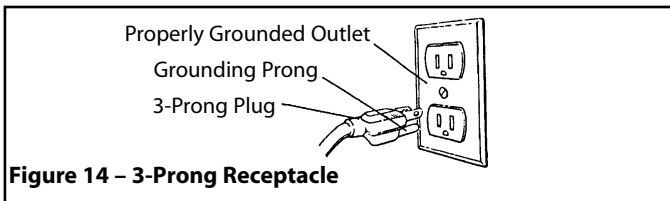
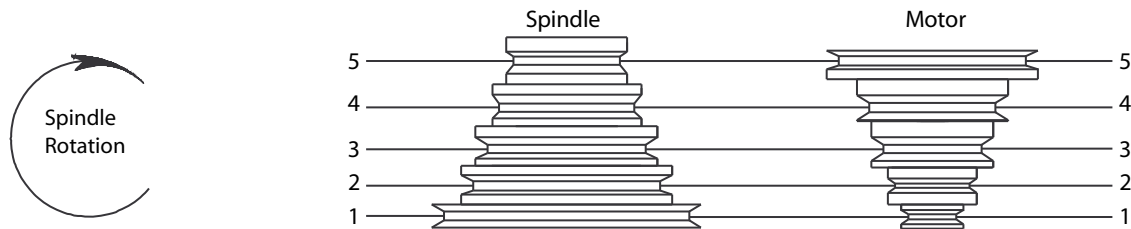

Figure 14 - 3-Prong Receptacle
Figure 17 – Spindle Speed Adjustment
This tool is equipped with an approved 3-conductor cord rated up to 150V and a 3-prong grounding type plug (see Figure 14) for your protection against shock hazards.
Grounding plug should be plugged directly into a properly installed and grounded 3-prong grounding-type receptacle, as shown (Figure 14).
- To change spindle speed, loosen motor lock knob (see Figure 14), and push the motor toward front of drill press. This will loosen the belt and permit relocating the belt to the desired pulley groove for the required spindle speed (See Figure 17).